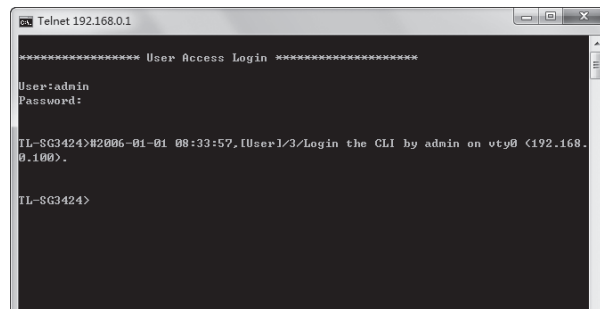

Figure 5-12 Log in the Switch
6. Type the User name and Password (the factory default value for both of them is admin) and press the Enter button, then you can use the CLI now, which is shown as Figure 5-12.